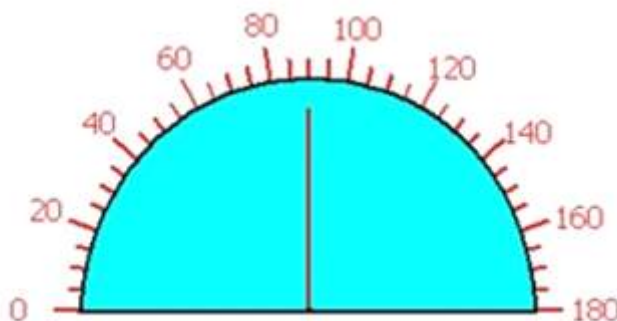

Figure 4-101
3. In screed edit area, press down left key of the mouse and drag the mouse to draw a Meter control. See Figure 4-101 for an example of Meter.